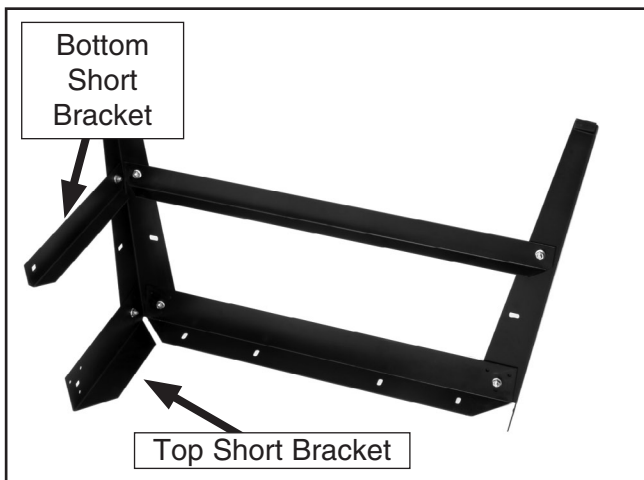

Figure 6. Top and bottom short brackets secured to a stand leg assembly.
- Mount a top and bottom short bracket to the left and right sides of the stand leg assembly completed in **Step 2** as shown in **Figure 6**. Secure with two M8-1.25 x 15 carriage bolts and serrated flange nuts.